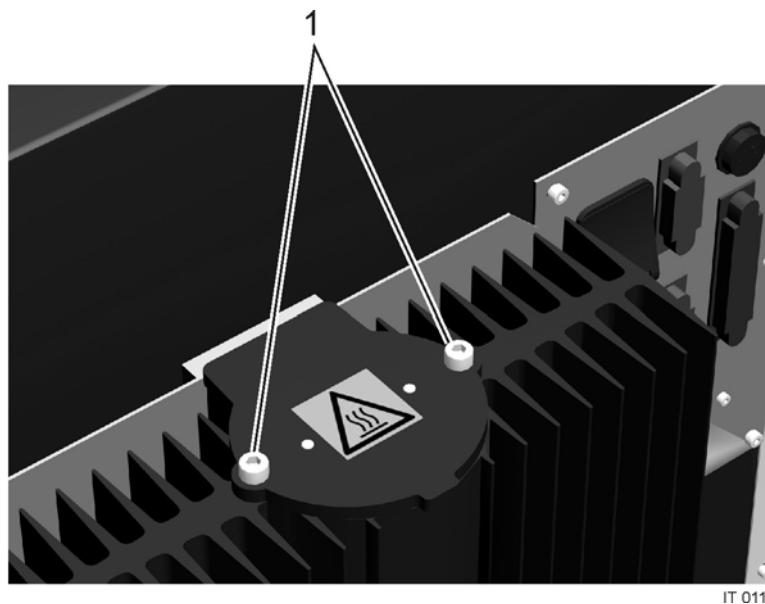

Fig. 5:12 Cover plate to lamp assembly
2. The cover plate to the lamp assembly is located on the top of the cooling flanges on the back side of the instrument, see Fig. 5:12. Unscrew the two screws **1** fastening the cover plate using the supplied 3 mm allen key.